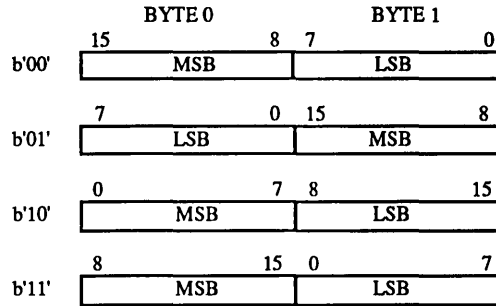

Figure 11. DST_ORDER Decode.
- Bit 1,0 **DST_ORD1, DST_ORD0**. These bits define the bit and byte order of destination data (see Figure 11).